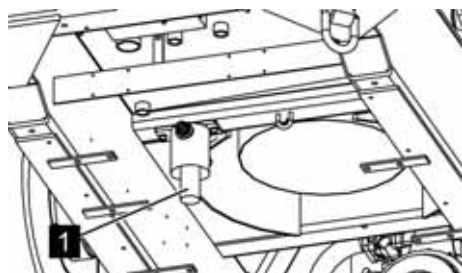

Fig. 146: Filter insert
7. ➤ Remove the filter insert (Fig. 146/1) and insert a new filter insert.